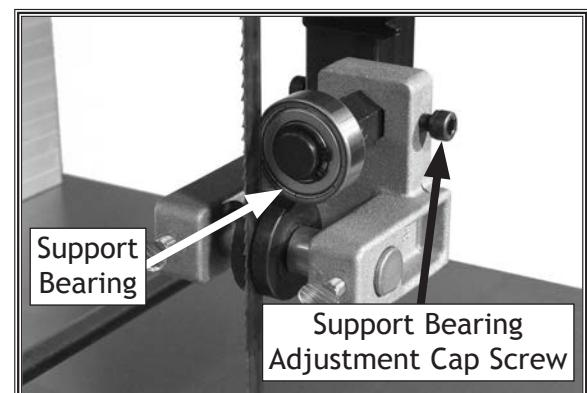

Figure 45. Upper support bearing assembly and controls (guide post cover removed for clarity).
2. Loosen support bearing adjustment cap screw (see Figure 45).